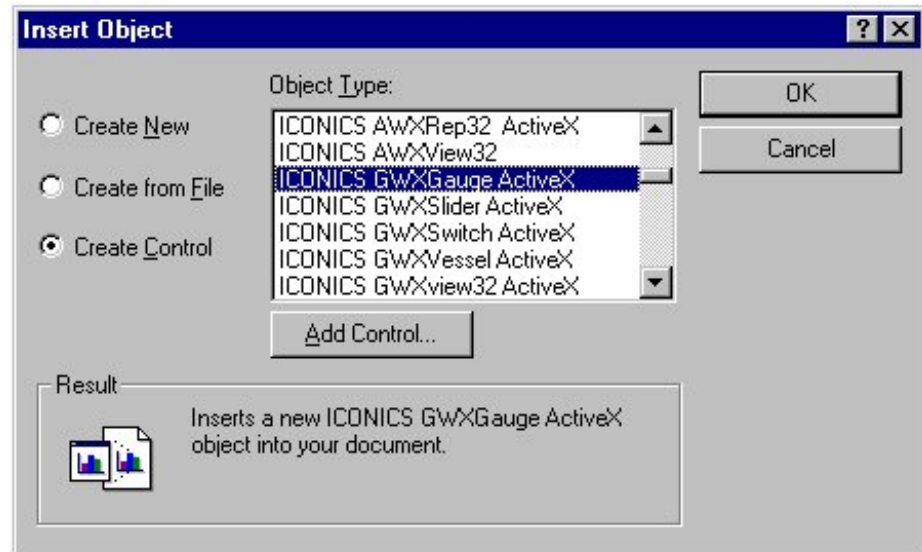

Figure 15-2: Insert Object Dialog Box
1. In M-Graphics on the Edit menu, select Insert New Object. The Insert Object dialog box appears (Figure 15-2).